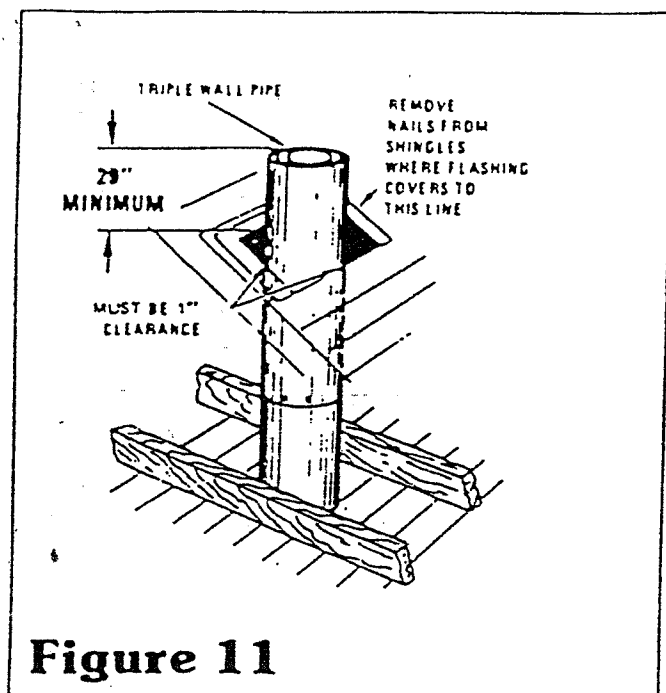

Figure 11
Step 7 Find location of hole to be cut into roof, using plumb bob or tape measure, and cut out roof opening maintaining 1 inch clearance to chimney. Save shingles for covering flashing. (See Figure 11).